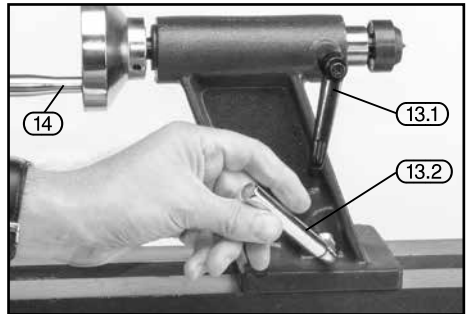

FIG. 5
9.2 MOVING THE TAILSTOCK – FIG. 5